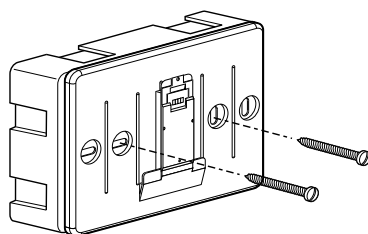

fig. 2
- fix the base of the device to the box on the wall using the screws supplied in the kit (fig. 2);